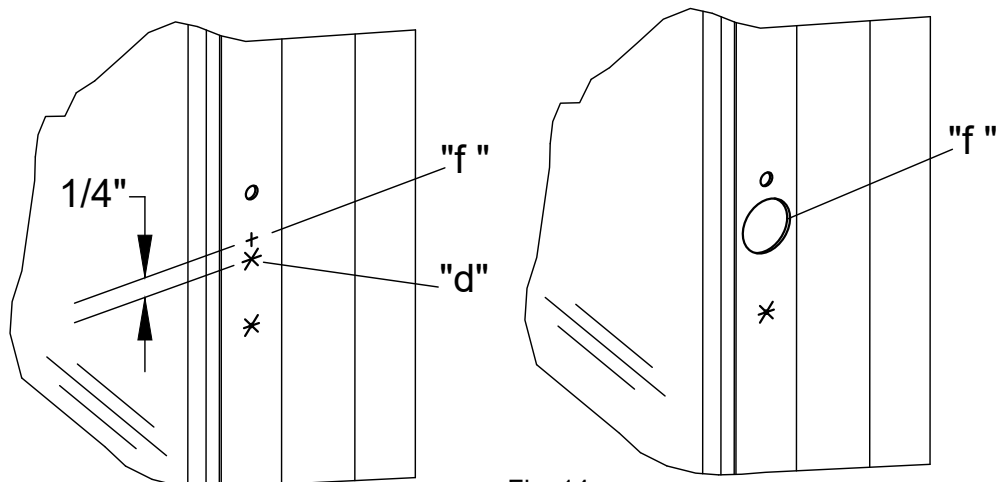

Fig. 14
- Make a new mark and center punch 1/4" higher than the cam center "d" (Fig 14). This will be the mark for the 1-3/4" outside cylinder hole "f". Using a 1-3/4" hole saw, drill only through **OUTSIDE** door face at "f".